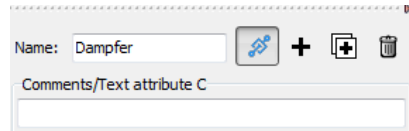

Figure 2.33.
2. Add new graphic object (GO) by clicking the **+** button.
3. Set name of the new GO to **Dampfer** (Figure 2.33).